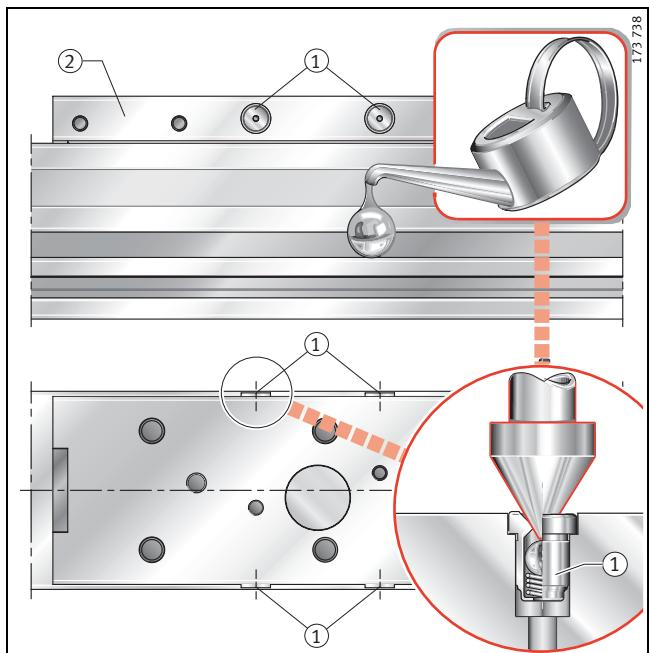

Figure 2 · Lubrication points – MLFI20-ZR
The support rail raceways are lubricated by an oil-soaked felt insert. Relubrication is carried out via two lubrication nipples (①) on each longitudinal side of the carriage (②) (Figure 2).